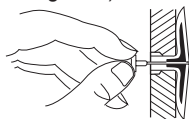

Figure 7 - Popping Open Anchor Wings for Thin Walls
4. For thin walls [1/2" (1.3 cm) or less], insert red key into wall anchor. Push red key to "pop" open anchor wings (see Figure 7). **IMPORTANT:** Do not hammer key! For thick walls [over 1/2" (1.3 cm) thick] or solid walls, do not pop open wings.